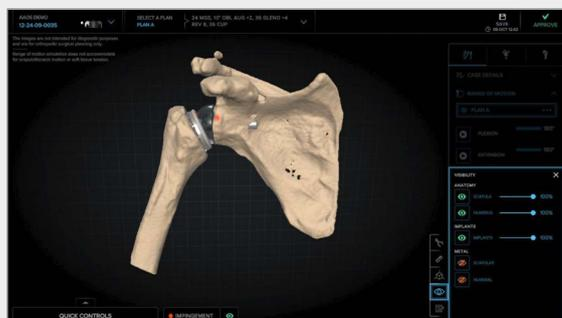

Figure 78. Range of motion viewer page with available visibility tool selections
- The “Range of Motion Viewer” page will display the Arthrex-selected glenoid and humeral implants in their proposed locations and orientations on both the 2D images and 3D model per the planning protocol. Users may show or hide the anatomy, implants, or proposed implants by selecting the appropriate toggle in the visibility tool as seen in Figure 78.